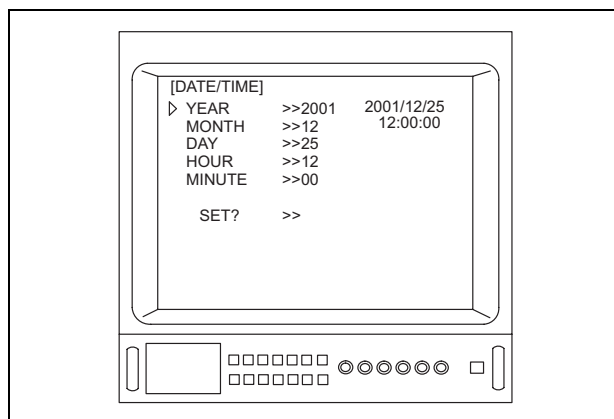
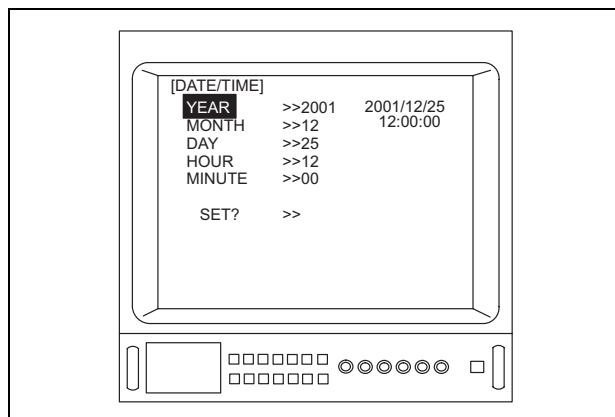

Figure 5.6
Figure 5.7
- When the menu switch “” or the “Enter” key on the keyboard is pressed, the characters of the function to the right of the arrow “” change from black to white. (For example, press the menu switch “” or the “Enter” key on the keyboard when the menu shown in Figure 5.6 is displayed, the menu appears as shown in Figure 5.7.)
Depending upon the OTV-S7V's settings, the menus shown in Figures 5.6 and/or 5.7 may appear different from those displayed on the video monitor.
- When function's characters change from black to white, depress the menu switches "◀" or "▶", or the "↑/↓/←/→" key on the keyboard to set up the function. (For example, when the menu shown in Figure 5.7 is displayed, press the menu switch "◀", or the "↓/←" key on the keyboard to change the year to "2000", and press the menu switch "▶", or the "↑/→" key on the keyboard to change the year to "2002".)
- When function's characters change from black to white, depress the menu switch "↵" or the "Enter" key on the keyboard to decide the setting and to go to previous menu. (For example, depress the menu switch "↵" or the "Enter" key on the keyboard when the menu shown in Figure 5.7 is displayed to decide the setting and to go to the menu shown in Figure 5.6.)